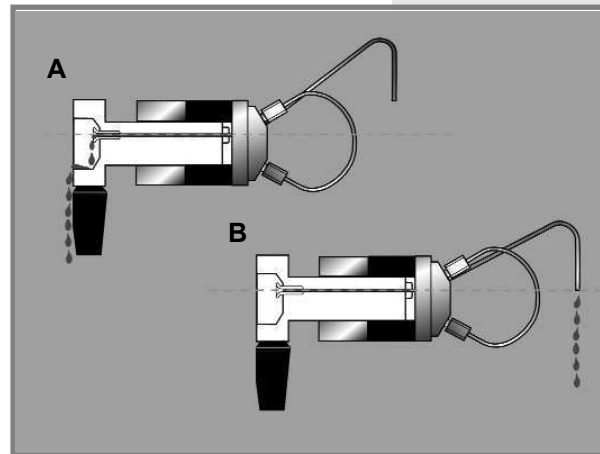

Figure 2. Needle port level compared to the level of vent line outlet:
3. If fluid leaks from the needle port and/or vent lines but eventually stops, the cause is most likely siphoning and not a leak. Siphoning occurs if the vent lines are lower or higher than the needle port. Adjust the vent line(s) so that the outlet is at the same horizontal level as the needle port to prevent siphoning (see Figure 2).